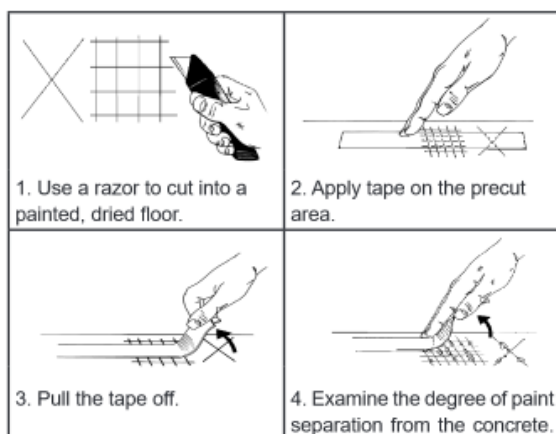

Figure 2. Adhesion test on the painted floor.
Allow newly applied paint to dry a minimum of 48 hours before proceeding with the test. At humidity levels over 55% RH, allow 72 hours of drying time before testing. Use a razor to cut a cross or a few perpendicular lines over a 3" by 3" (75 mm by 75 mm) area on several spots of the thoroughly dried area. (See Figure 2).
2. Combine separate cans of paint into one container to ensure uniform color distribution. It is recommended that a test area be coated to ensure that the adhesion and electrical performance of the paint is acceptable. (See Adhesion Testing, Figure 2.) If the test areas show inadequate adhesion, use an industrial floor primer/sealer.